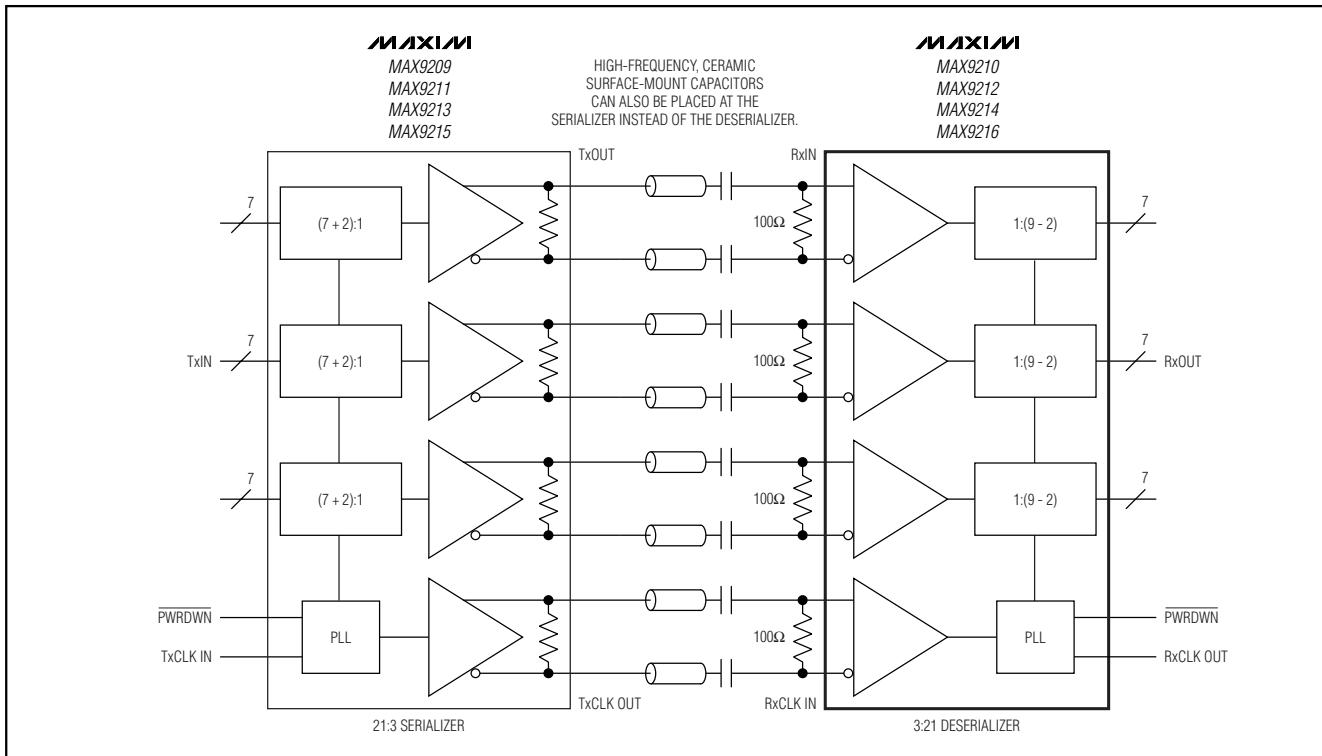
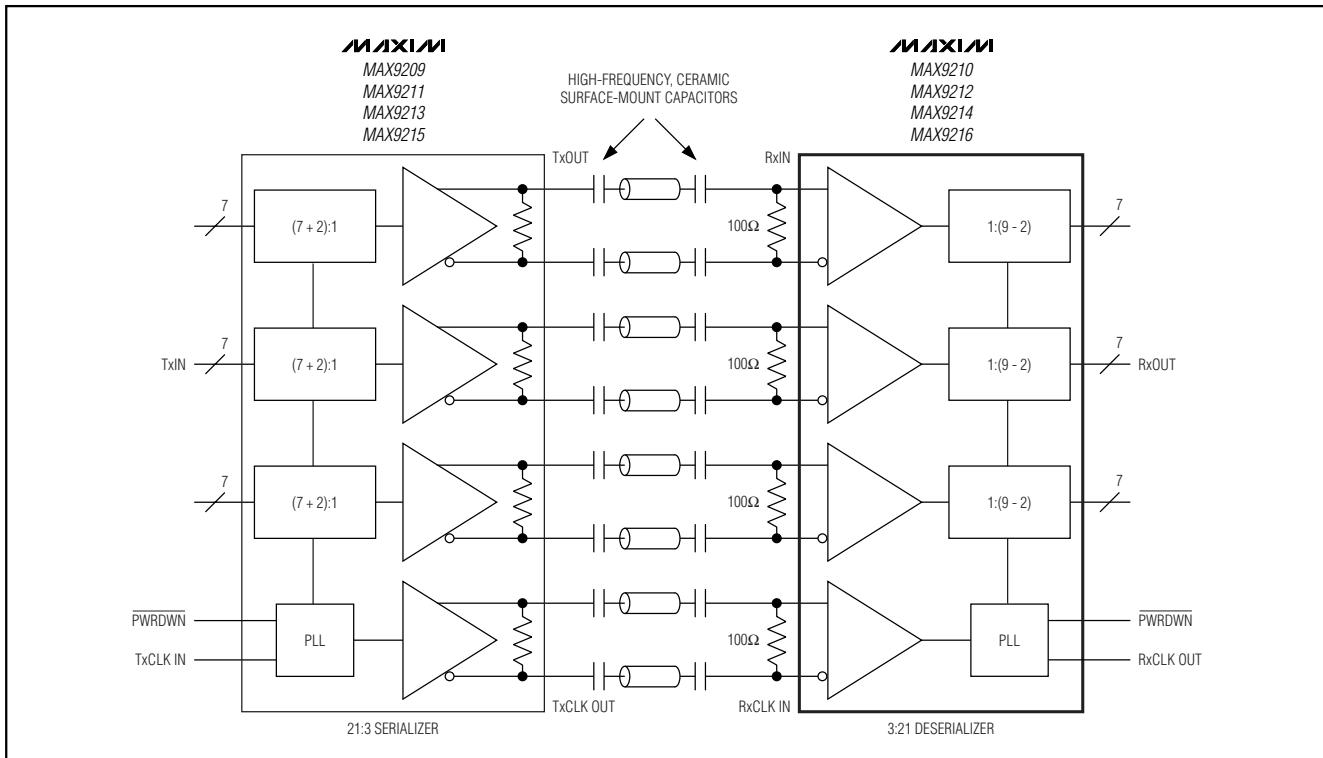

Figure 12. Two Capacitors per Link, AC-Coupled, DC-Balanced Mode
Figure 13. Four Capacitors per Link, AC-Coupled, DC-Balanced Mode
The RC network for an AC-coupled link consists of the LVDS receiver termination resistor ( $R_T$ ), the LVDS driver output resistor ( $R_O$ ), and the series AC-coupling capacitors (C). The RC time constant for two equal-value series capacitors is  $(C \times (R_T + R_O))/2$  (Figure 12). The RC time constant for four equal-value series capacitors is  $(C \times (R_T + R_O))/4$  (Figure 13).
Equation 1 is for two series capacitors (Figure 12). The bit time ( $t_B$ ) is the period of the parallel clock divided by 9. The DSV is 10. See equation 3 for four series capacitors (Figure 13).
Equation 1 altered for four series capacitors (Figure 13) is: